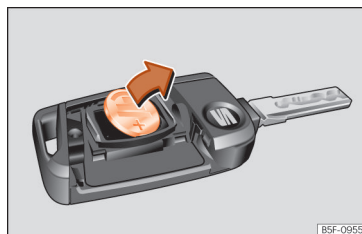

Fig. 142 Vehicle key: removing the battery.
- Extract the battery from the compartment using a suitable thin object »» Fig. 142.
- Place the new battery in the compartment as shown »» Fig. 142, pressing in the opposite direction to that shown by the arrow »» ①.